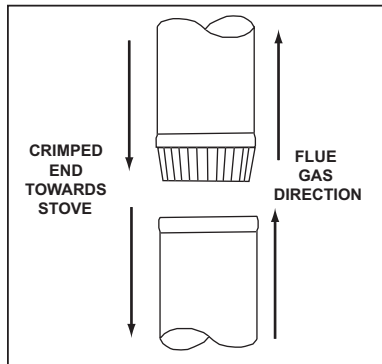

FIGURE 11A - Chimney Connector
- A. Single wall connector or stove pipe. This must be at least 24 gauge mild steel or 26 gauge blue steel. The sections must be attached to the stove and to each other with the crimped (male) end pointing toward the stove. **See Figure 11A.** All joints, including the connection at the stove collar, should be secured with three sheet metal screws. Make sure to follow the minimum clearances to combustibles as set out on **page 7** of this manual. Where passage through the wall, or partition of combustible construction is desired, the installation shall conform to CAN/CSA-B365 (Canada).